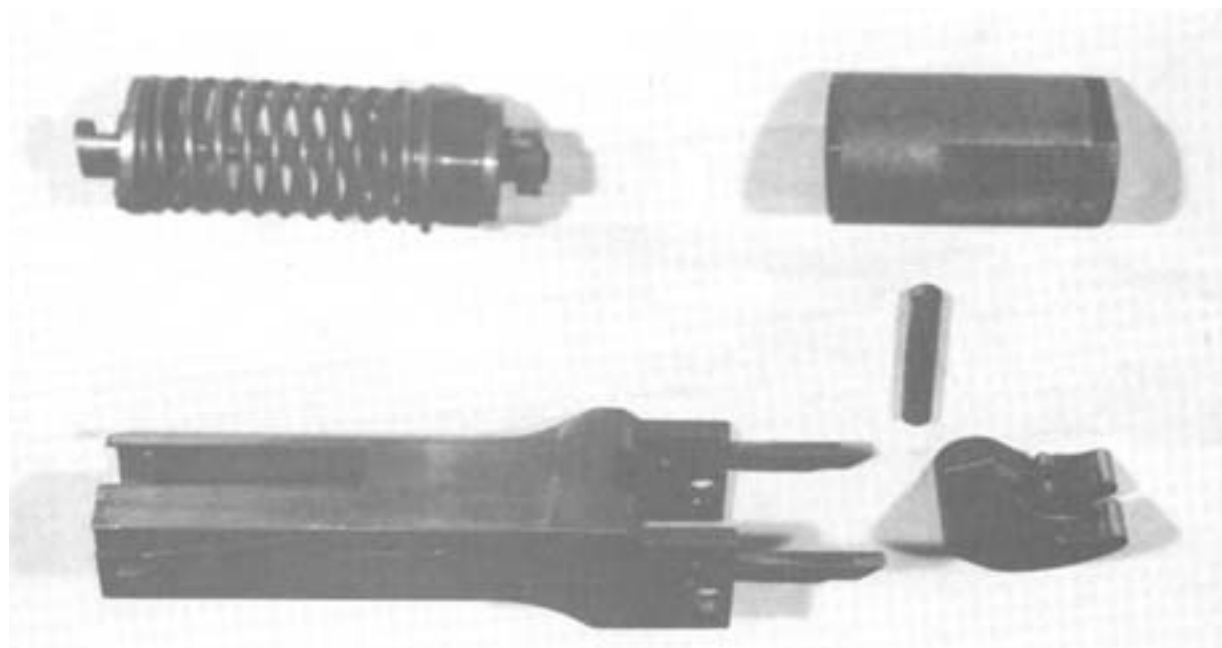

Figure 4-34. Barrel Buffer Body Group, Exploded View.
b. Barrel Buffer Body Group. See figure 4-34.
(1) Detailed disassembly